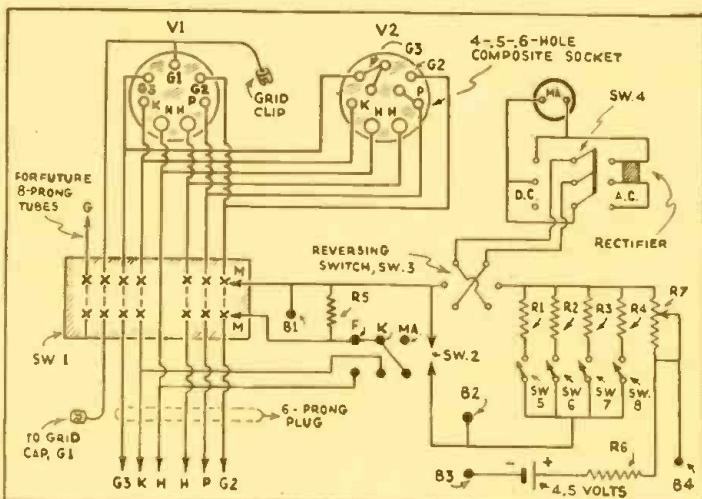

Fig. 1
Rear view of the analyzer. The designations here, as well as those in Fig. A, above, correspond to those in the List of Parts and the diagram, Fig. 1.
**I**N DESIGNING this analyzer, I have endeavored to make it as simple, as inexpensive, and as highly accurate as possible. This analyzer utilizes a Weston or Jewell 0-1 ma. milliammeter equipped with accurate resistors, and may be built for approximately \$26.50. It is very simple to construct, as may be seen by inspecting the wiring diagram, Fig. 1, and is easy to operate. Because of the simplicity of the wiring, the operator may easily understand the various tests he is performing on a receiver, whereas in some other analyzers the wiring is so complicated that the average Service Man depresses push buttons and throws switches but does not understand how the meter is being switched about in order to test a desired circuit. An analyzer of the type to be described will take care of all existing tubes, and, if necessary, with very little change, may be made to take care of ten-, fifteen-, or twenty-prong tubes if they are ever manufactured! The cost of the analyzer may be reduced to about \$21.50 if carbon resistors are used in place of the wire-wound resistors R1, R2, R3, and R4, but the readings would not be as accurate.
Figure 2 is a diagram of the switch, Sw. 1. Seven pairs of contact points are mounted on a piece of bakelite in a circular arrangement. Each pair of contact points are spaced equi-distant from each other. They are represented in Fig. 2 as the outer disc on which the plate, filament, grids, and cathode lines are connected, and are represented in Fig. 1 as X. Directly over this outer disc of contact points is the inner movable disc on which are mounted six jumpers, or shorters. Each jumper shorts a pair of contact points, GG, FF, PP, KK, etc. On this inner disc are also mounted two separate contact points, MM. The jumpers, or shorters, are represented in Fig. 1 as the dotted lines connecting the X's. The two small contact points of the inner disc are represented as the arrow heads in Fig. 1, and are designated by the letters MM.